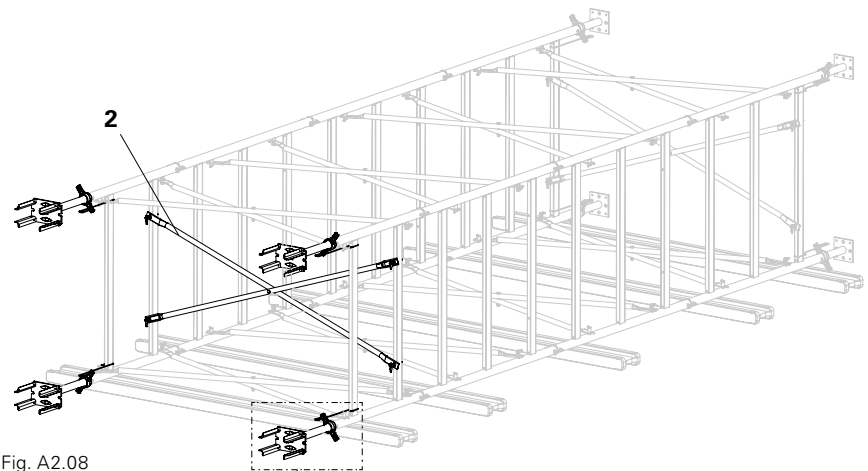

Fig. A2.08
- With horizontal assembly, one PD 5 Diagonal Brace (2) must be mounted in the top level. (See Section "A2 Horizontal Assembly - Base". (Fig. A2.08)